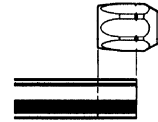

Fig. 5
1. Cut hose to length required using a fine-tooth hacksaw or cut-off wheel. Clean hose bore. Hose must be stripped of its rubber cover before inserting in socket. Locate skiving point by putting hose end next to socket. Measure from hose end or socket to notch on socket. (See Fig. 5)